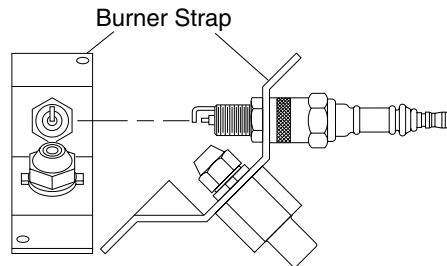

Figure 13 - Spark Plug Rotation, 35,000 Btu/Hr Model Only
10. Replace burner strap onto spark plug. Rotate burner strap to position spark plug electrodes (see Figure 13).